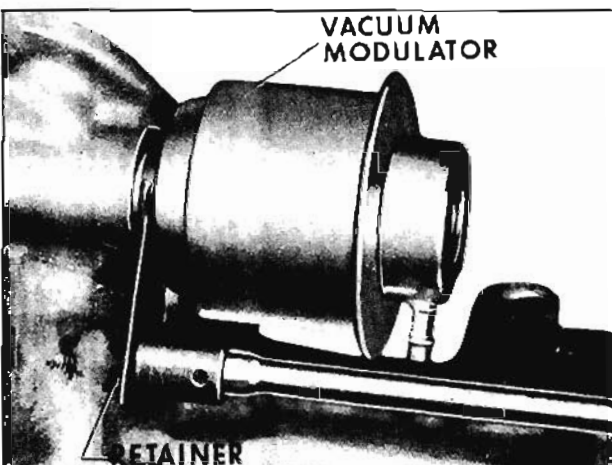

Fig. 6-284 Removing Vacuum Modulator Retainer
1. Remove vacuum modulator retainer bolt and retainer using a 1/2" socket. Remove vacuum modulator and valve assembly. (Figs. 6-284 and 6-285)